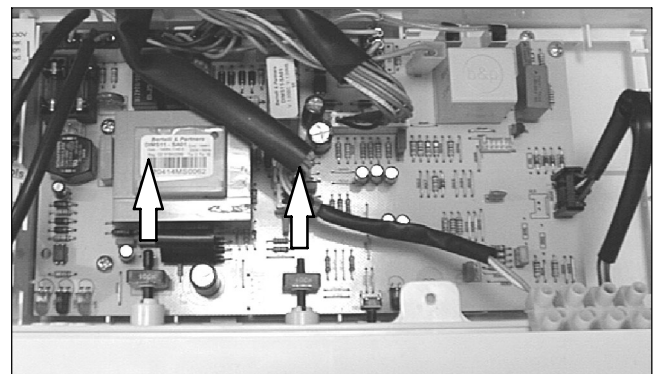

Fig. 48
- Remove the spindles of the c.h. and d.h.w. temperature adjustment knobs by delicately pulling them with pliers in the direction shown by the arrows in Fig. 48.